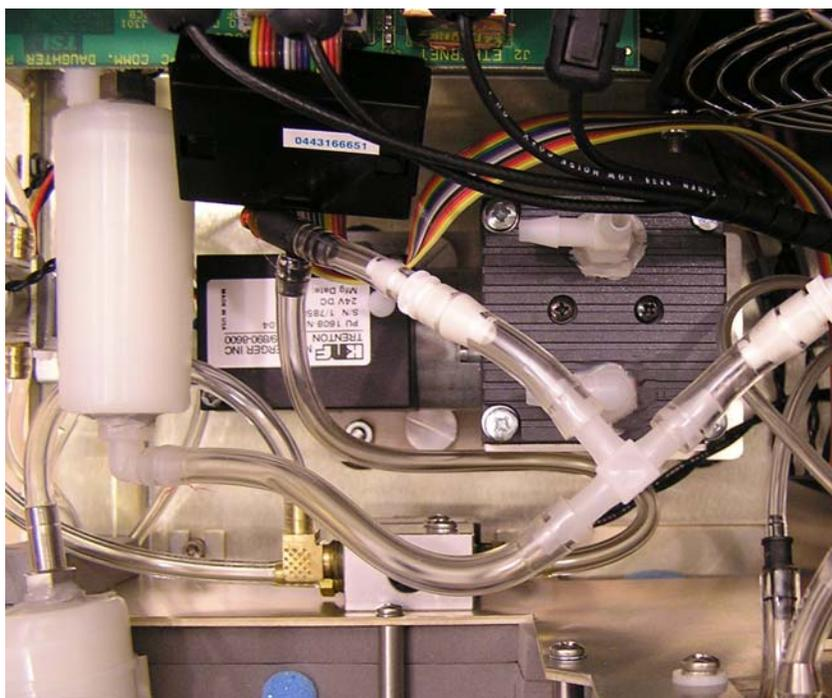

Figure 8-13
5. Using a polyethylene tee having $\frac{3}{16}$ " tube barbs to connect the tubes as shown in Figure 8-13.